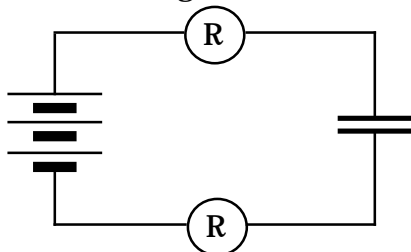
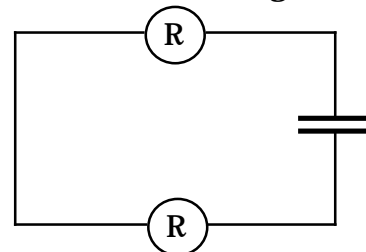

Figure 3.1a
Figure 3.1b
Charge a blue capacitor through round bulbs as in Figure 3.1a. Then discharge through these bulbs as in Figure 3.1b. Note the amount of time needed to discharge the capacitor.
4. Illustrate the directions and magnitudes of flow rates at the beginning of capacitor charging or discharging by placing one of the following arrowtails by each wire in Figures 3.1a through 3.1e.